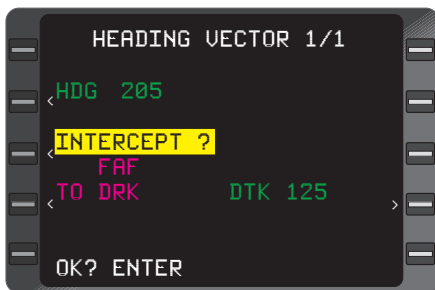

Figure 3-105
4. **BACK** Key - DEPRESS to display the **INTERCEPT?** prompt. (Figure 3-105)